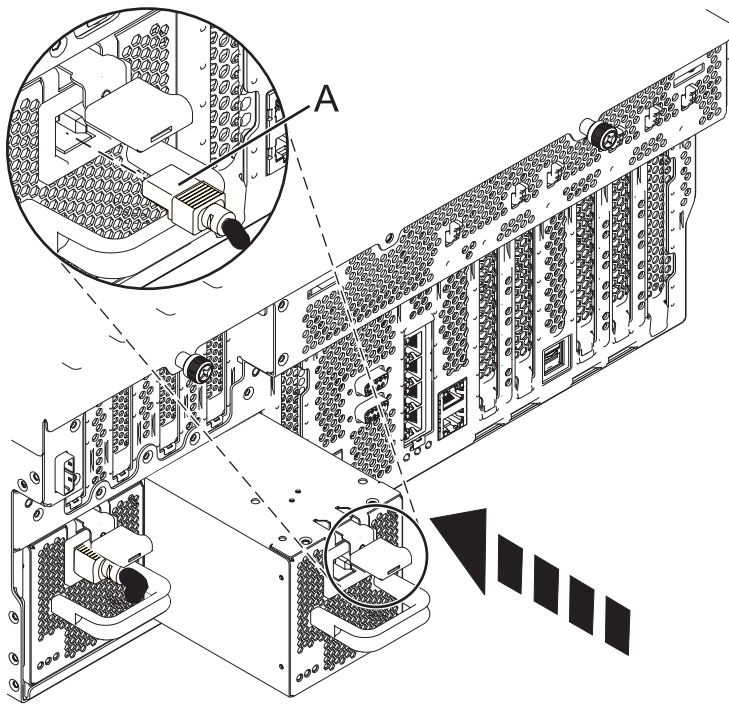

Figure 8. Replacing a power supply
4. Push the power supply into place until the locking latch snaps into place as shown in Figure 8 on page 12.